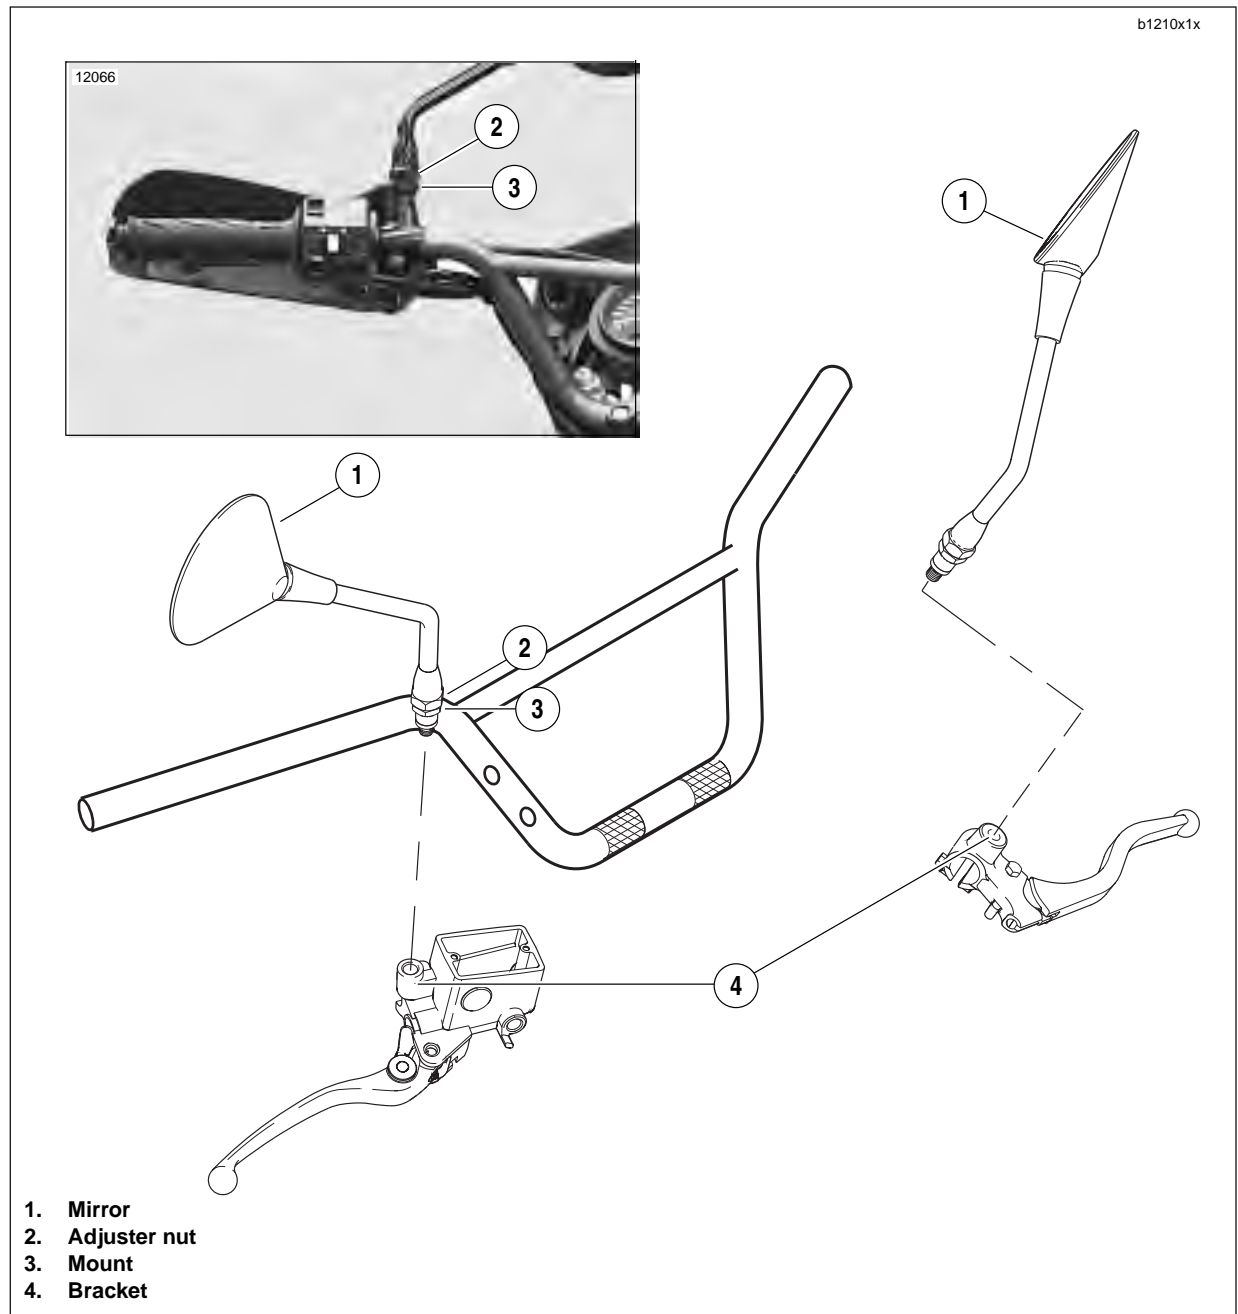

Figure 2-113. Mirrors and Mounting Hardware
1. See Figure 2-113. Loosen adjuster nut (2) and remove mirror (1) from mount (3).
2. Loosen mount (3) and remove from bracket (4).